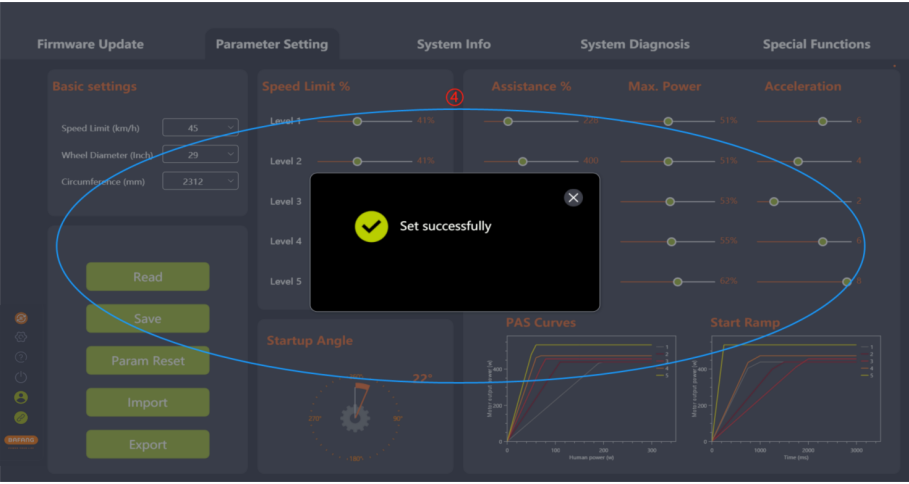

Fig 5-14 Set parameters
4. After logging in, you can set parameters (Figure 5-14).